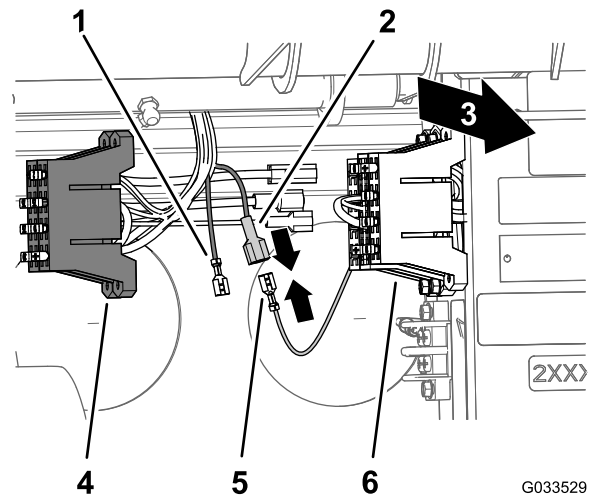

Figure 25
3. Connect the uninsulated receptacle terminal of the fuse block for the machine to the insulated blade terminal of the fuse block of the sprayer (Figure 25).
2. Locate the uninsulated receptacle terminal at the end of the open, yellow power wire of the fuse block for the machine and the insulated blade terminal at the end of the yellow, optional power wire of the fuse block of the sprayer wiring (Figure 25).